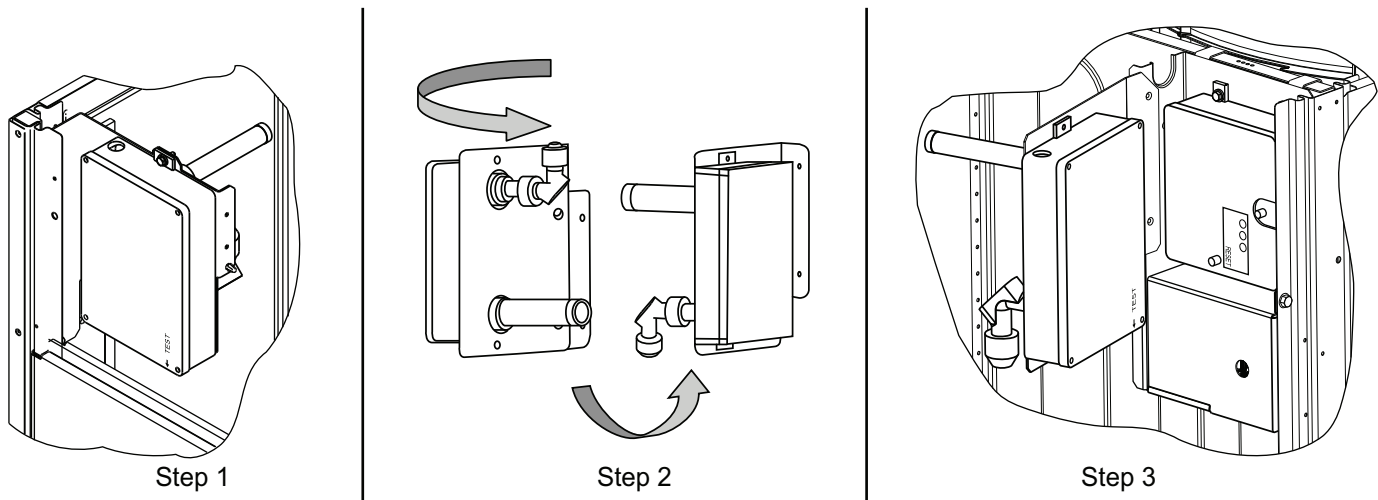

Fig. 70 — Completing Installation of Return Air Smoke Sensor
1. Unscrew the two screws holding the return-air smoke detector assembly. See Fig. 70, Step 1.
3. Turn the assembly 90 degrees and then rotate end to end. Make sure that the elbow fitting is pointing down. See Fig. 70, Step 2.
4. Screw the sensor and detector plate into its operating position using screws from Step 1. See Fig. 70, Step 3.